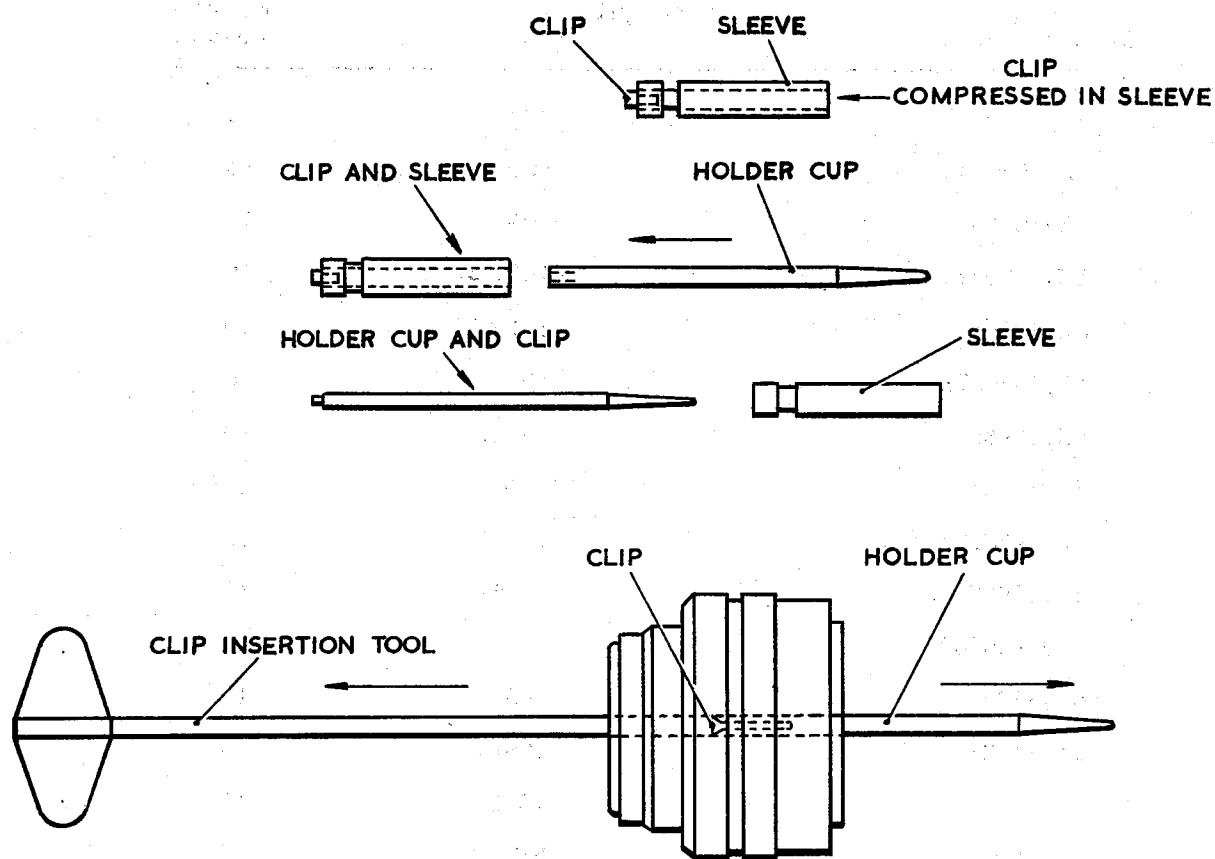

Fig. 13. Retaining clip insertion
(2) Press clip into sleeve until clip ears are compressed fig. 13.
(3) Pass the square end of holder cup through other end of sleeve and over the compressed ears of the retaining clip.
(4) Remove sleeve over tapered end of holder cup.
(5) Apply insertion tool to retaining clip held in holder cup.
(6) Push insertion tool complete with retaining clip and holder cup from rear face of connector straight into selected cavity, until the clip is in retained position.
(7) Remove holder cup from mating face of connector.
(8) Remove insertion tool from rear face of connector.